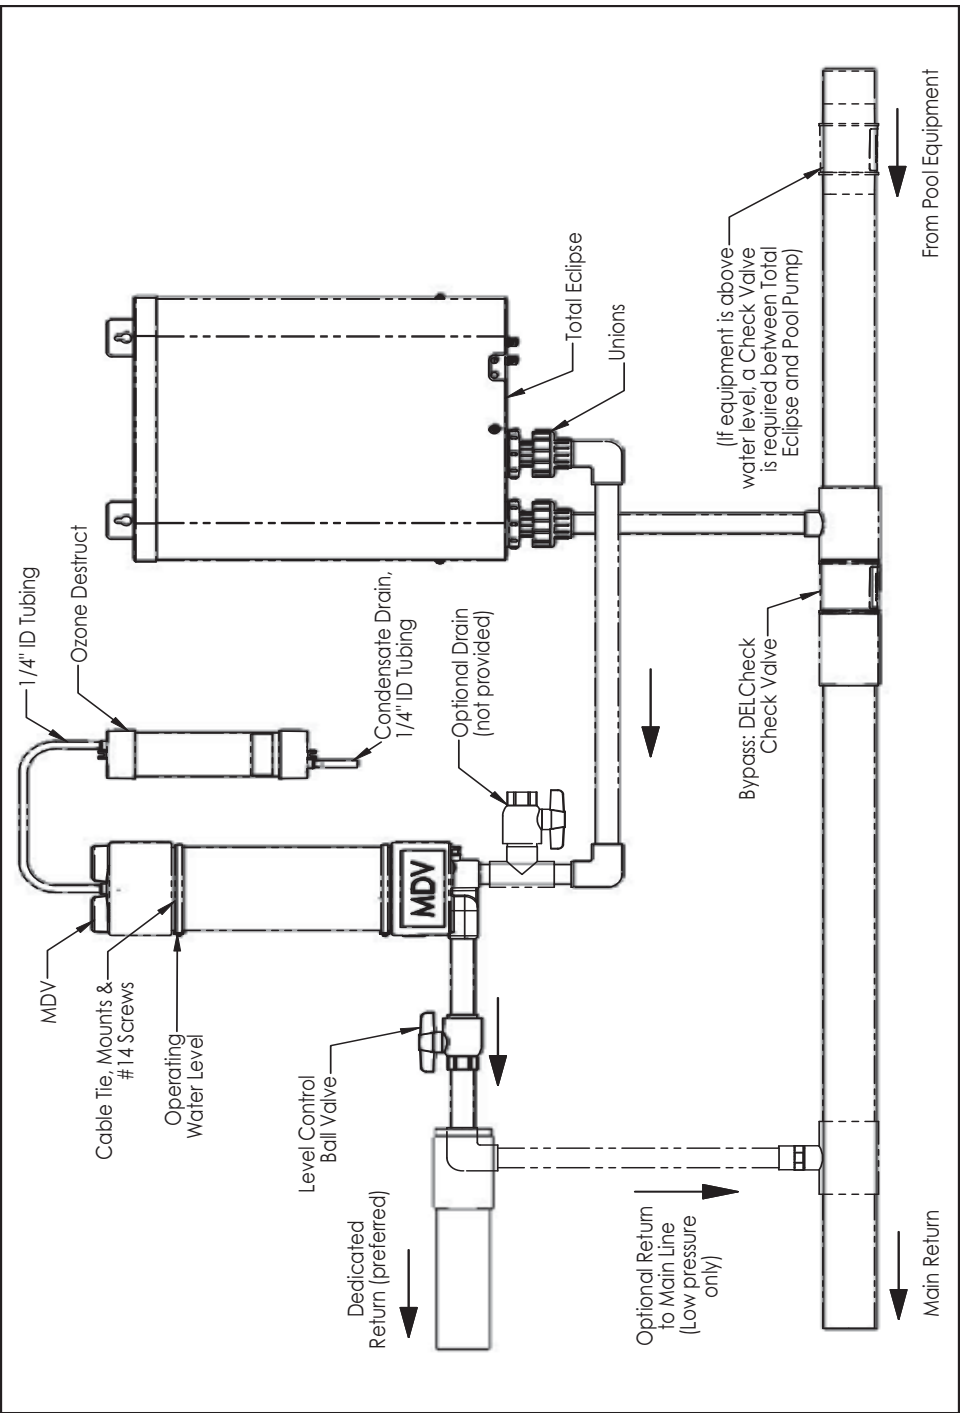

Figure 2: MDV and Total Eclipse Installation
Installation (refer to Figure 2)
2. Mount the MDV vertically as shown in **Figure 2** to a solid surface (i.e. fence, wall, post) using the (2) cable ties, (4) cable tie mounts, and (4) screws included. Use a pair of pliers to tighten and secure the cable tie. If trimming away excess, fold tab over to avoid the sharp edge. To avoid discoloration, mount in an area out of direct sunlight.
4. Plumb the Total Eclipse and MDV to the pool return line as indicated in **Figure 2**. Use thread sealant as needed. **Do not use thread tape.**